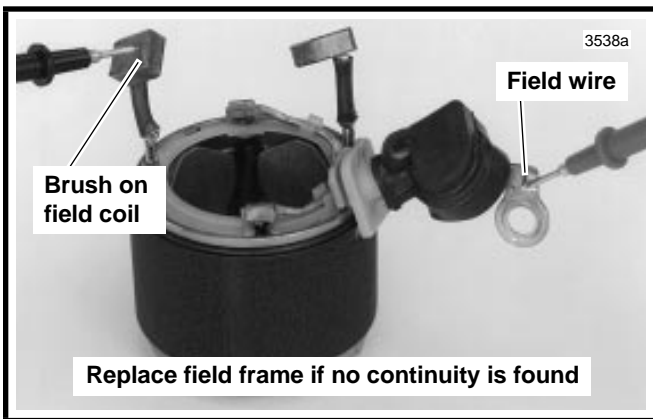

Figure 5-21. Open Field Test
13. See Figure 5-21. Check for OPEN FIELD COILS with an ohmmeter or continuity tester. Touch one probe to the field wire. Touch the other probe to each of the brushes attached to the field coils. There should be continuity. If there is no continuity at either brush, then the field coil(s) are open and the field frame must be replaced.